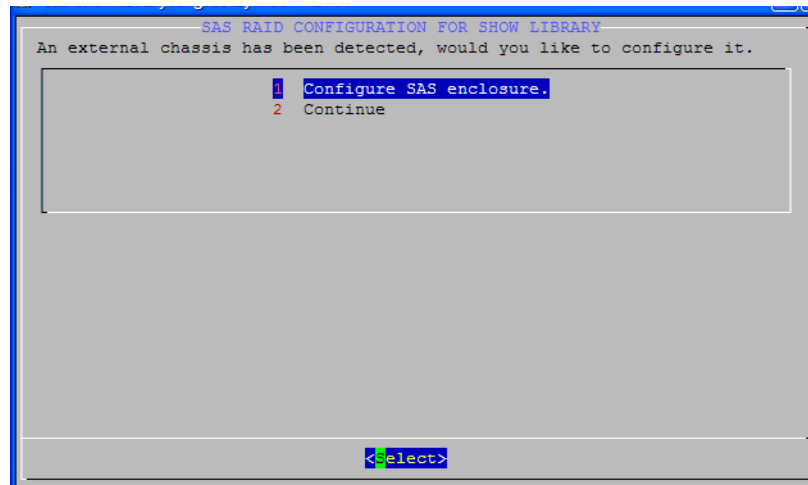

Figure 3-57 SAS RAID Configuration for Show Library Screen
7. If your system has a SAS external storage device connected, the **SAS RAID Configuration for Show Library** screen appears, as shown in Figure 3-57. Proceed directly to step 18.
If your system has a SAS but is not configured, the system displays the **SAS RAID Configuration for Show Library (Advanced)** screen shown in Figure 3-57